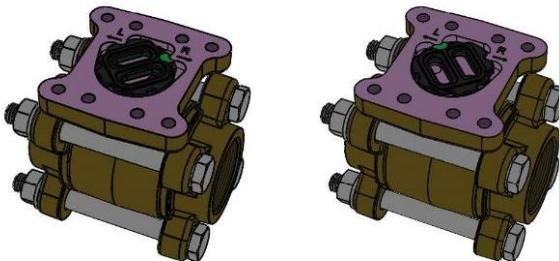

Fig. 7
To change the direction, loosen the four (4) hexagon screw, which hold the diaphragm housing to the Pipe Section. Remove the diaphragm housing and you will see the flow direction selector (it might have attached itself to the bottom side of the diaphragm housing). Replace the flow direction selector in the configuration for your system (see fig. 7). There is a green marking indicating the flow direction.